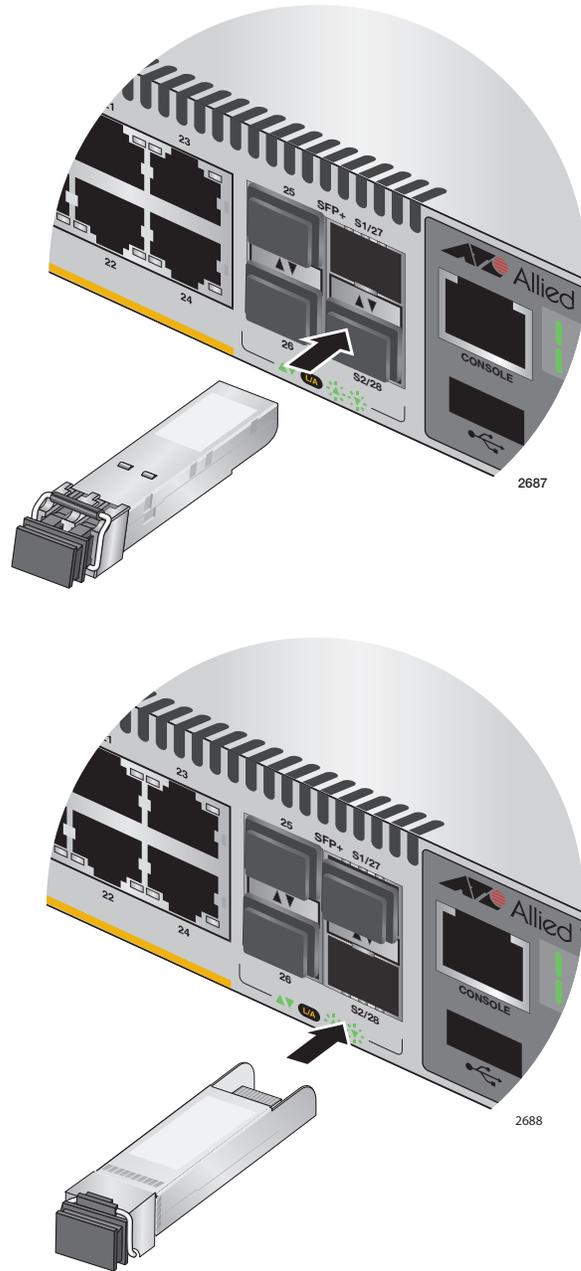

Figure 62. Installing the AT-StackOP/0.3 or AT-StackOP/9.0 Transceiver
- Slide the transceiver into the slot until it clicks into place, as shown in Figure 62 on page 102.